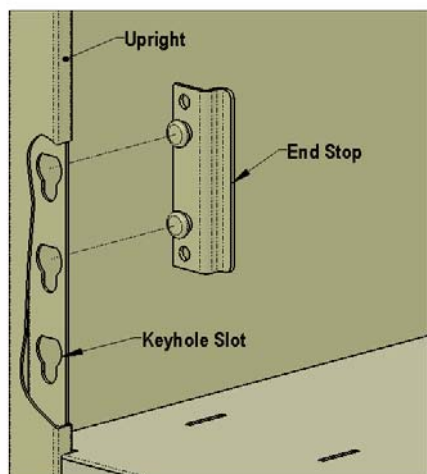

Fig.4
3. Install the end stops into the upright. Leave one full keyhole slot between the end stop and the shelf. (See Fig.4)